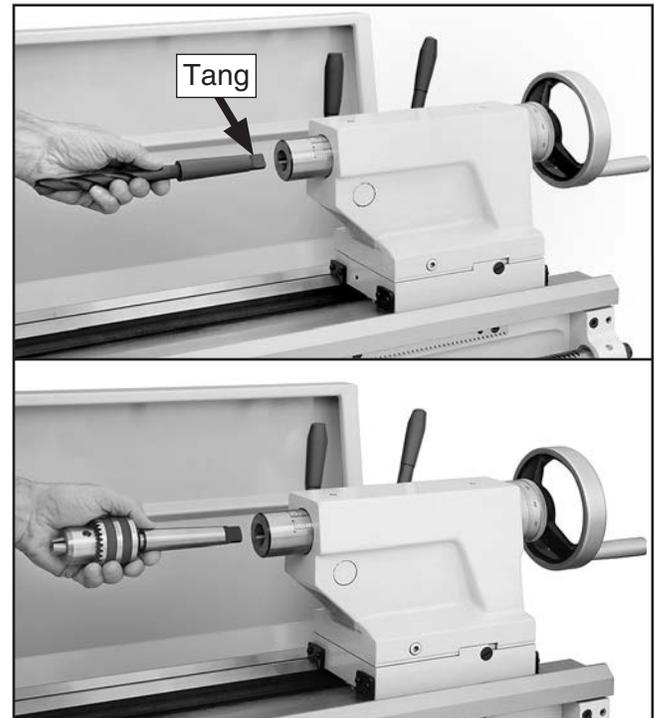

Figure 38. Example photos of inserting MT#3 tools with tangs into a typical tailstock.
3. With a firm and quick motion, insert the tool into the quill, as shown in **Figure 38** on **Page 32**. Check to see if it is firmly seated by attempting to twist it—a firmly seated tool will not twist.